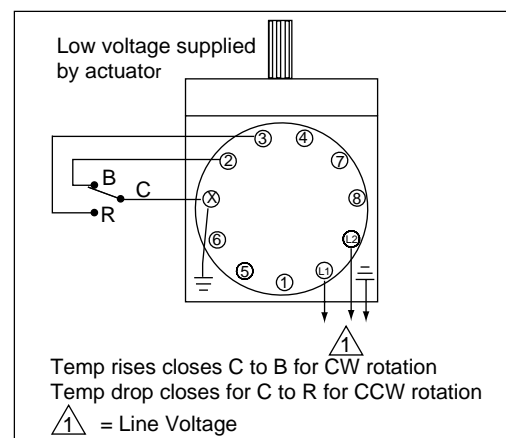

Figure 11. Two Position Control by an On/Off Temperature Controller or Thermostat.
1. During installation of the linkage assembly, place the primary controller in the manual mode to drive output high or low. Or, control the actuator manually as shown in Figure 11 on page 13.